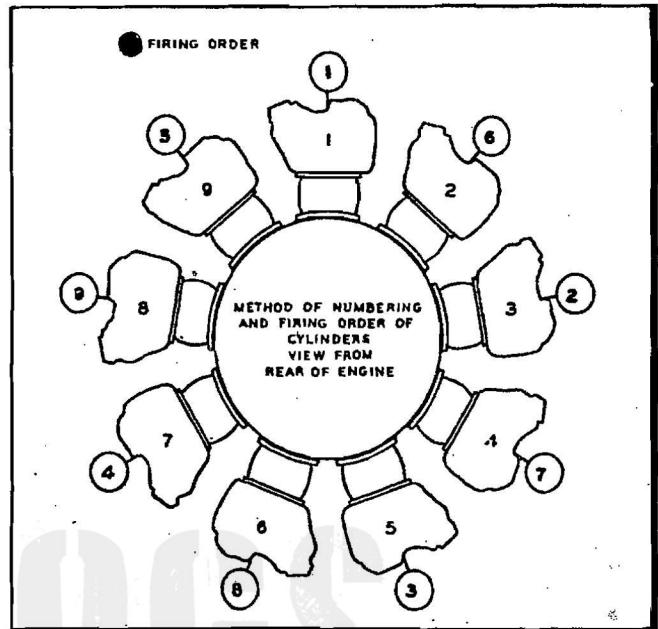

Figure 4—Cylinder Numbering Diagram
- f. The cylinders are numbered consecutively in the direction of crankshaft rotation; that is, clockwise as viewed from the rear of the engine. The top cylinder is designated as cylinder No. 1. See figure 4.